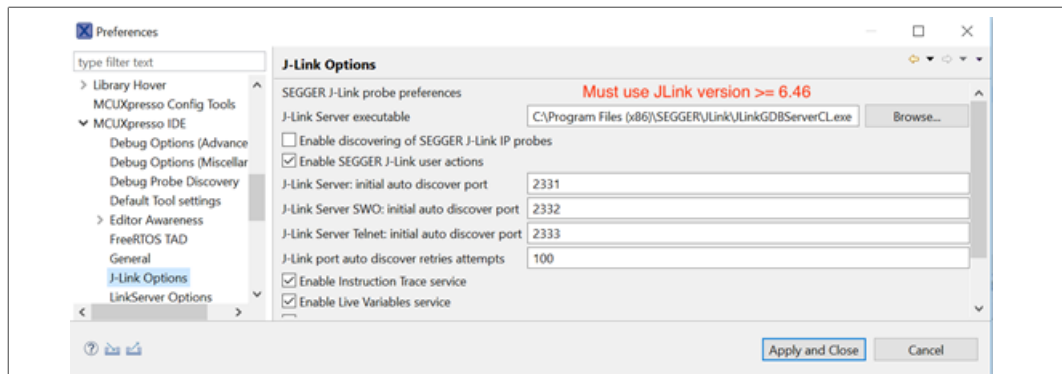

Figure 9. Customize MCUXpresso IDE options
**Note:** SEGGER J-Link software version  $\geq 6.46$  is required for compatibility with RT500. MCUXpresso IDE may ship with an older version, which is customized as in Figure 9.